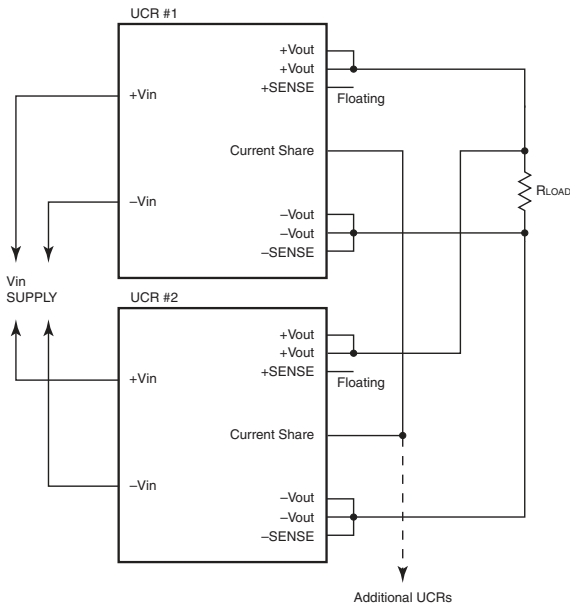

Figure 12. Load-Sharing Parallel Connections
**Using parallel connections – Load Sharing (see figure 12)**